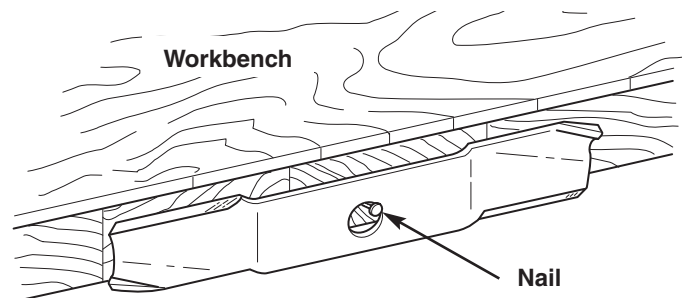

Figure 19. Balancing The Blade
6. Balance the blade as shown in Figure 19. Center the blade's hole on a nail lubricated with a drop of oil. A balanced blade will remain level. If the blade is not balanced, continue to sharpen the heavy side until it balances.